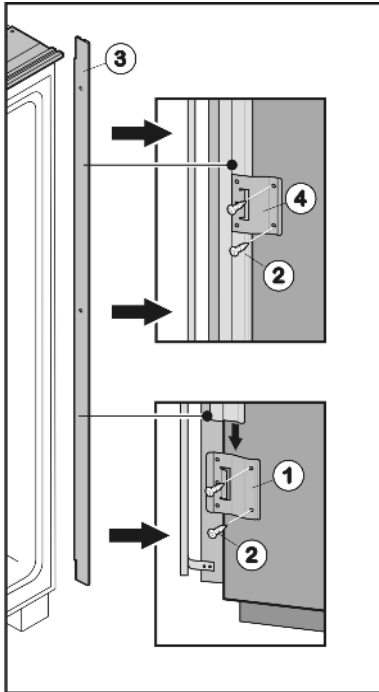
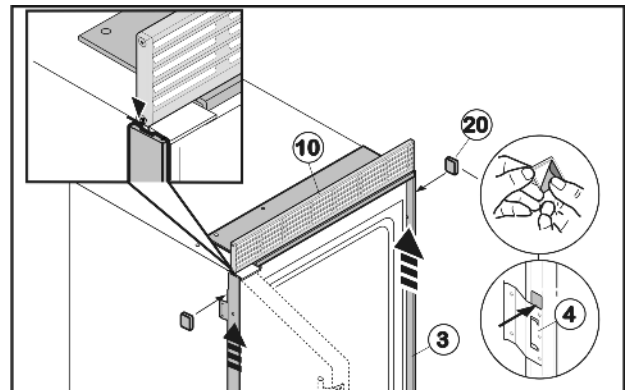
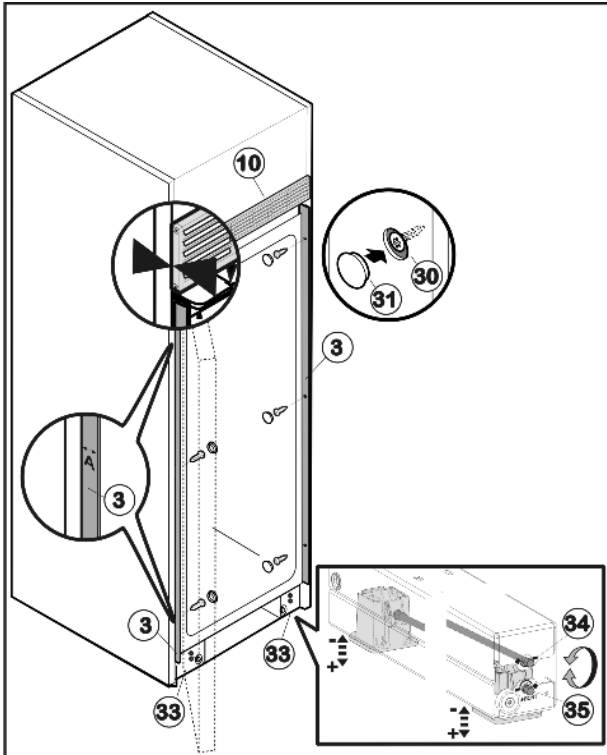

Fig. 48
Fig. 51
Fig. 52
- ▶ Fit retaining plate Fig. 48 (1) to the lower part of the handle side by inserting two screws Fig. 48 (2) into the pre-cut holes.
- ▶ Slide installation strip Fig. 48 (3) into the retaining plate Fig. 48 (1) from above.
- ▶ Push second retaining plate Fig. 48 (4) onto the installation strip Fig. 48 (3) from above and screw to the center of the side wall.
- ▶ Push third retaining plate Fig. 48 (4) onto the installation strip Fig. 48 (3) from above and screw to the top part of the side wall.
- ▶ Remove adhesive tape from the side installation strip Fig. 51 (3).
- ▶ Push installation strip Fig. 51 (3) upwards until it is touching the ventilation grille Fig. 51 (10).
- ▶ Glue the adhesive plates Fig. 51 (20) above the retaining plate Fig. 48 (1) and the retaining plates Fig. 51 (4) respectively to the installation strip Fig. 51 (3) such that it cannot slide downwards.
- ▶ Push the appliance into the recess until the rear edge of the ventilation grille Fig. 52 (10) is flush with the front edge of the side wall of the cabinet.
- ▶ Align appliance inside the recess above the roller bases Fig. 52 (33) using a spirit level: Use upper adjustment setting (1/4") Fig. 52 (34) for the rear adjustable foot and lower adjustment setting (1/4") Fig. 52 (35) for the front adjustable foot respectively. Turn clockwise to raise and counterclockwise to lower. Maximum adjustable height: 5/8 in (16 mm).
- ▶ At the top and bottom of the recess check the gap **A** between the front edge of the installation strip Fig. 52 (3) and the front edge of the side wall of the unit. It must be 1/2 " (13 mm). Realign the appliance in the recess if required.
- ▶ Secure appliance inside the recess using three screws Fig. 52 (30) on the handle side and the hinge side respectively. Do not scratch the side installation strip Fig. 51 (3) when doing so.
- ▶ Place cover caps Fig. 52 (31) over the screws.